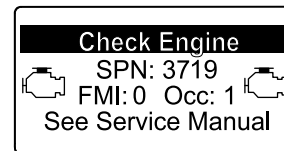

Figure 48
- Engine warning SPN 3719, FMI: 0 (Figure 48)